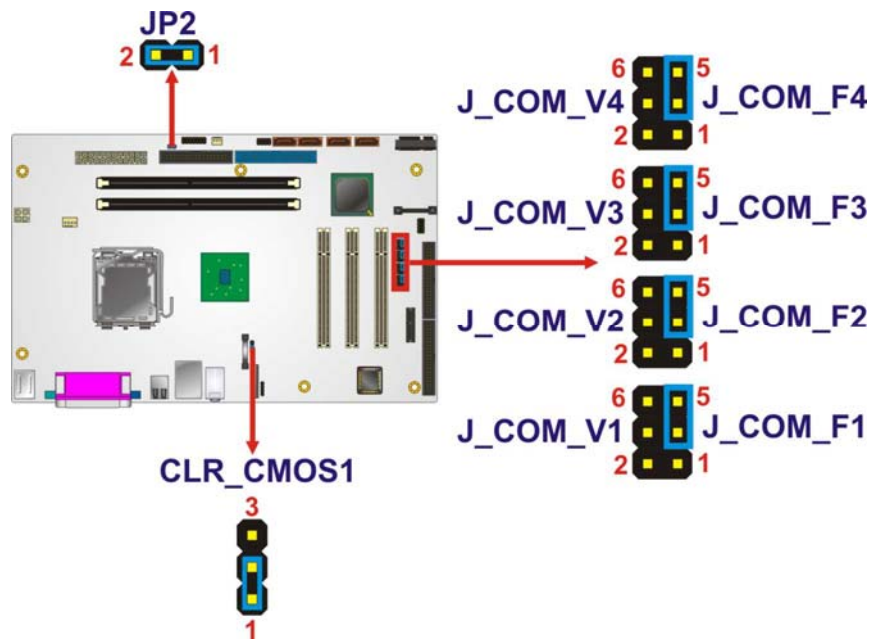

Figure 5-8: Jumper Locations
Jumper Location:	See Figure 5-8
- Jumper Location:** See **Figure 5-8**